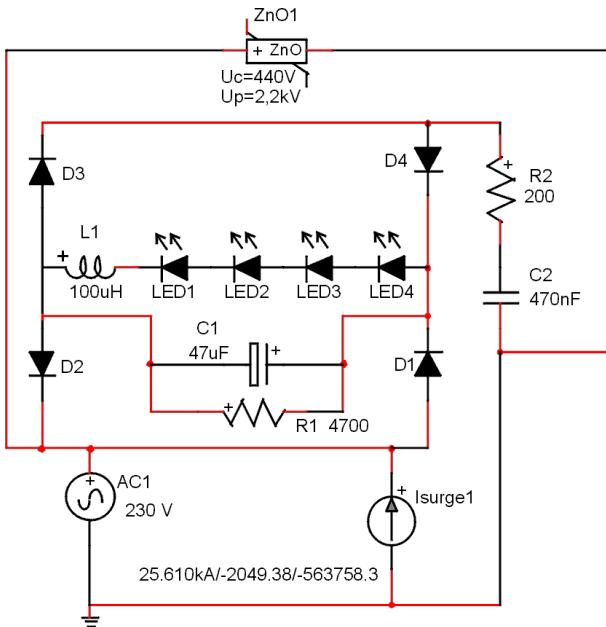

Fig. 3. Common LED indicator diagram with lightning and switching overvoltage protection.
They are supply directly from AC electric network. It isn't protected against overvoltage from supply line. During normal exploitation there isn't any problem with indicator. Presented unit was installed in high voltage lab. During first cycle of normal surge generator work LED indicator was damaged. The lightning overvoltages were produced by the high-voltage surge generator (SG) – type UCS 500M6B. The SG covers transient and power fail requirement according to international standards with voltage capability of up to $1,2/50\mu s$ 6,6kV. Two different configurations were examined. First investigation shows that diode D1 and D2 was shorted. In this case LED lamp it self wasn't damaged. To prevent future dysfunction few elements were added: metal oxide varistor (ZnO1) and L1 – fig. 3.